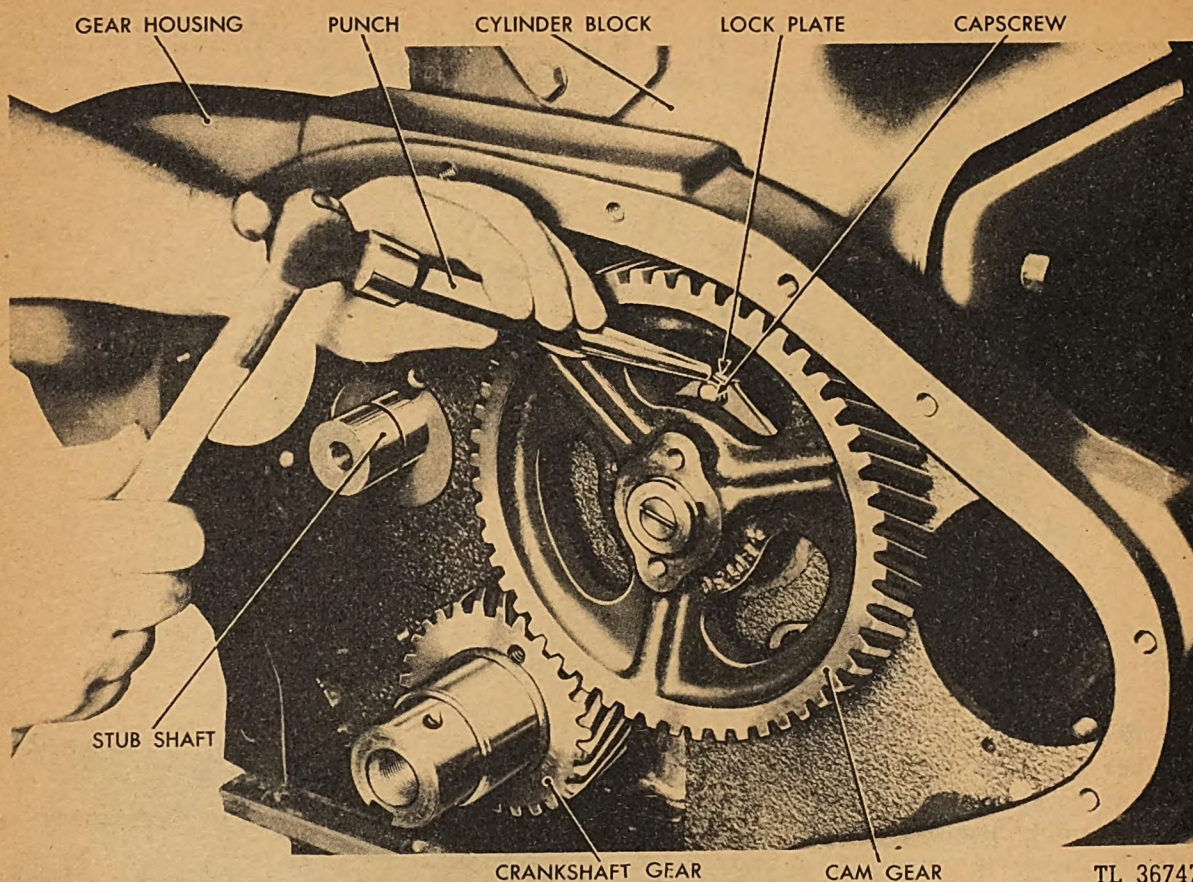

Fig. 95. Straightening Tabs on Cam Retaining Lock Plate
j. *Checking Camshaft Clearances. (Removal).* (1) Straighten the locking tabs on the camshaft retaining plate as shown in Figure 95. Unscrew the three retaining capscrews. An ordinary  $\frac{7}{16}$ -inch open-end wrench, bent close to the head, will unscrew these capscrews. Consult Figure 173.